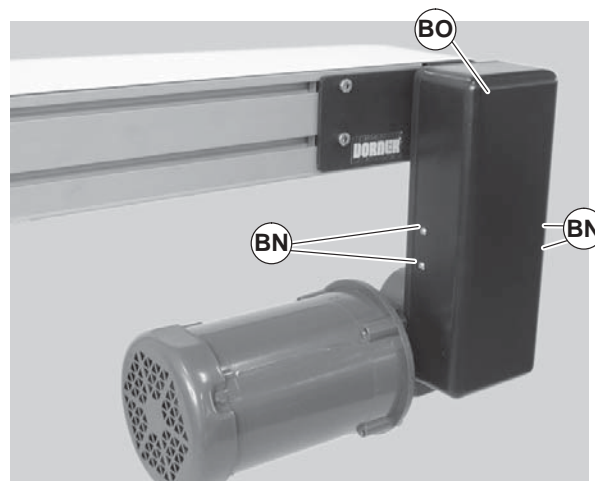

Figure 51
- b. Remove four (4) screws (Figure 51, item BN) and remove cover (BO).